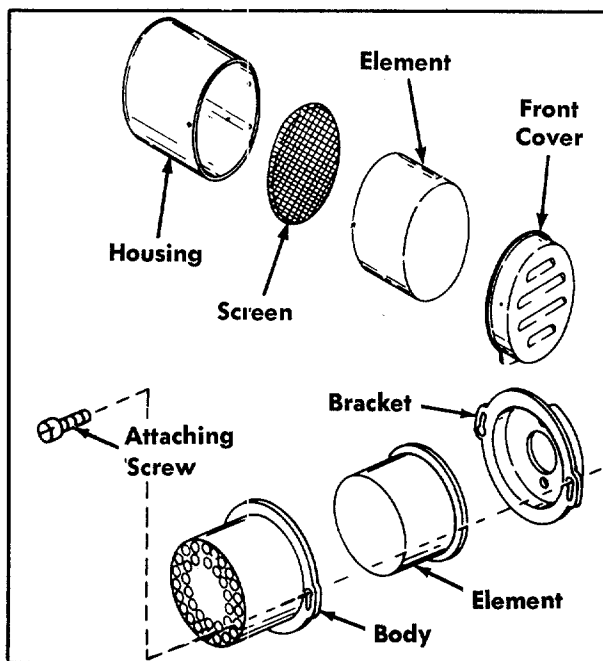

FIGURE 40.
- CHECK OIL every five (5) operating hours or each time equipment is used.
- Polyurethane Type—Serviceable. Clean element every ten (10) hours or oftener if engine runs rich and emits black smoke from the exhaust. Service by removing air cleaner cover. Remove polyurethane element and wash in detergent and water solution by squeezing similar to a sponge. Squeeze out cleaning solution. Re-oil element by applying generous quantity of oil to sides and open ends. Squeeze to distribute oil and to remove excess oil. Reinstall element and air cleaner cover as illustrated in figure 40.